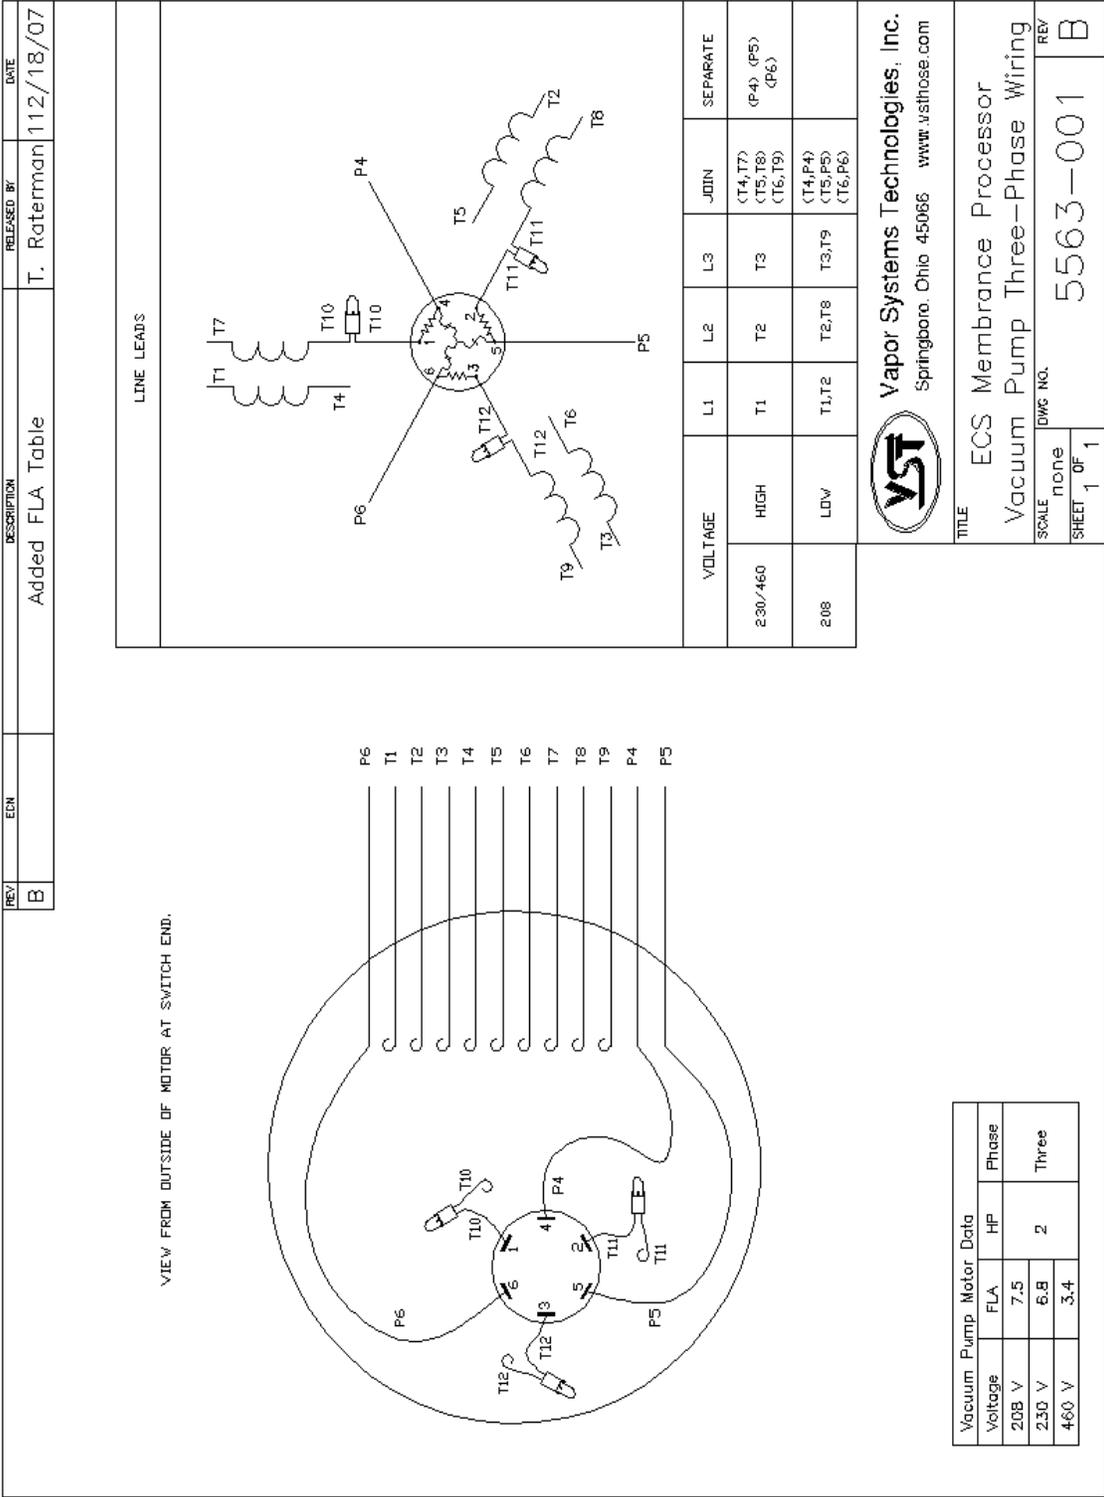
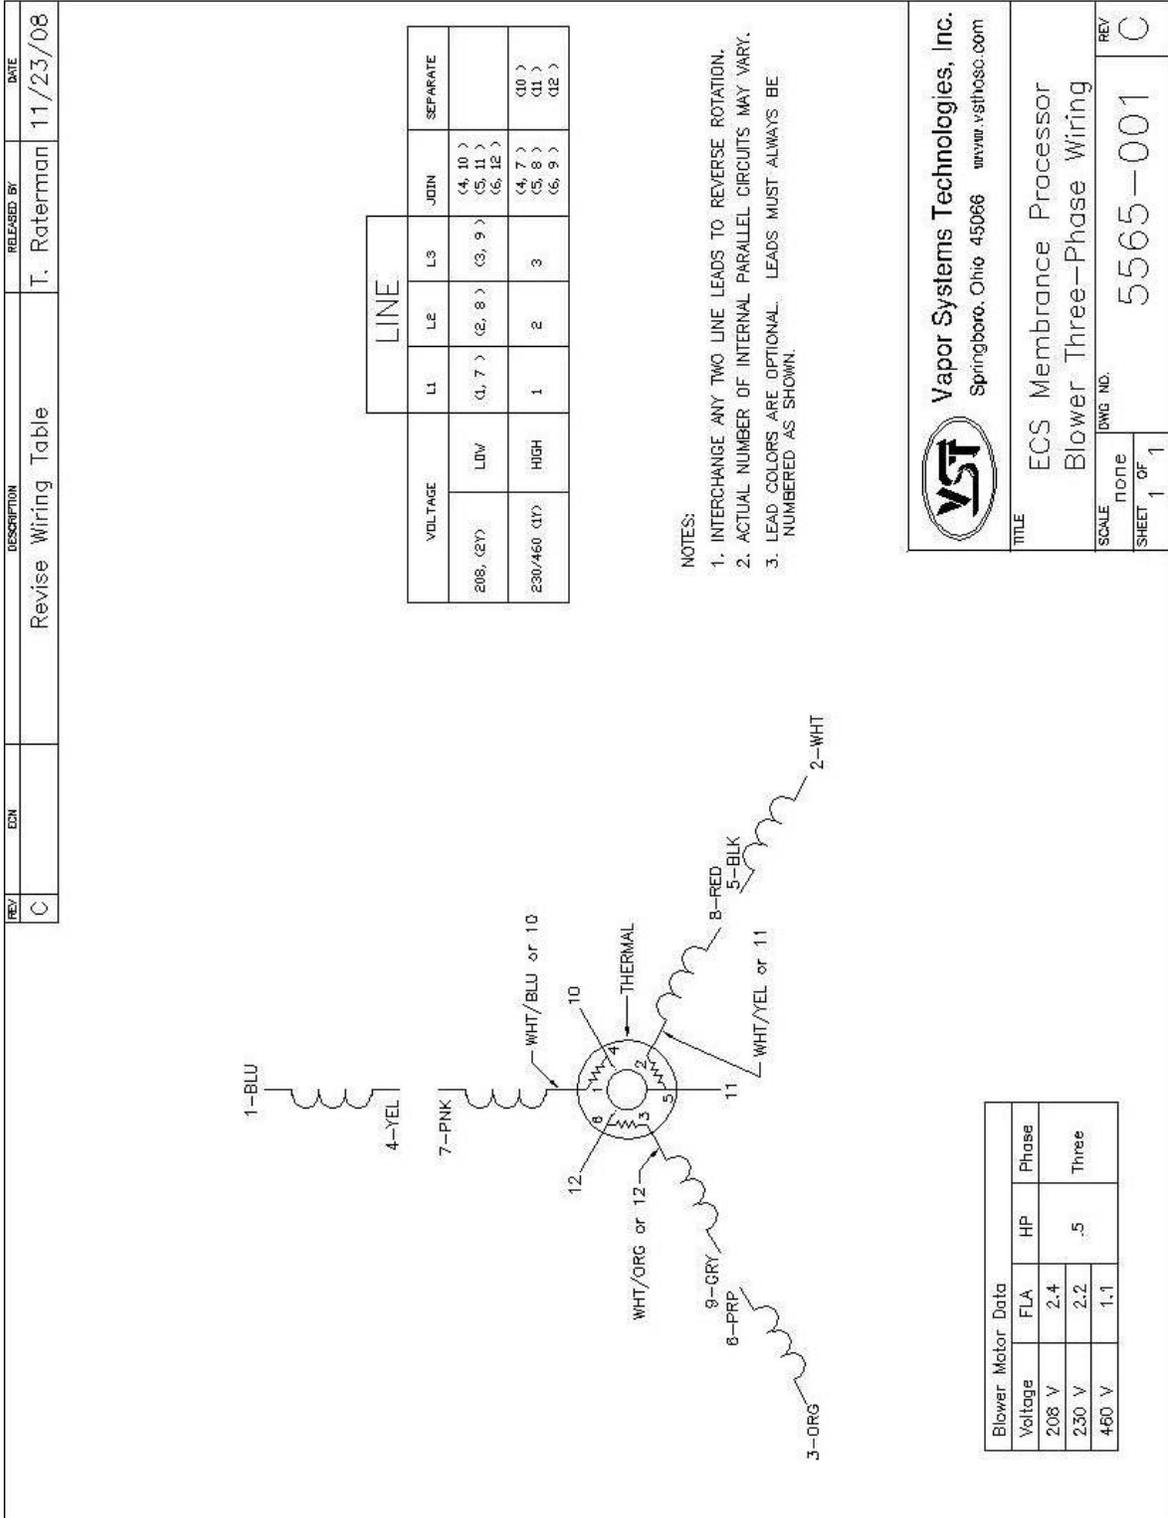

Figure 15: Vacuum Pump: Three-Phase Motor Wiring Diagram
Figure 17: Blower: Three-Phase Motor Wiring Diagram
- ▶ See Figure 15 and Figure 17.